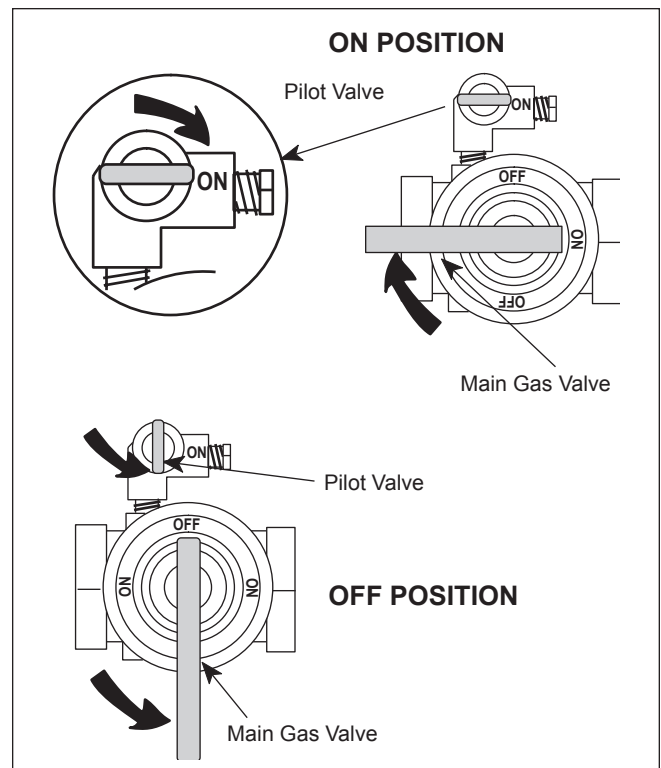

Figure 16. Gas Manual Valves.
- Turn off all manual gas valves and wait five minutes (see Figure 16).